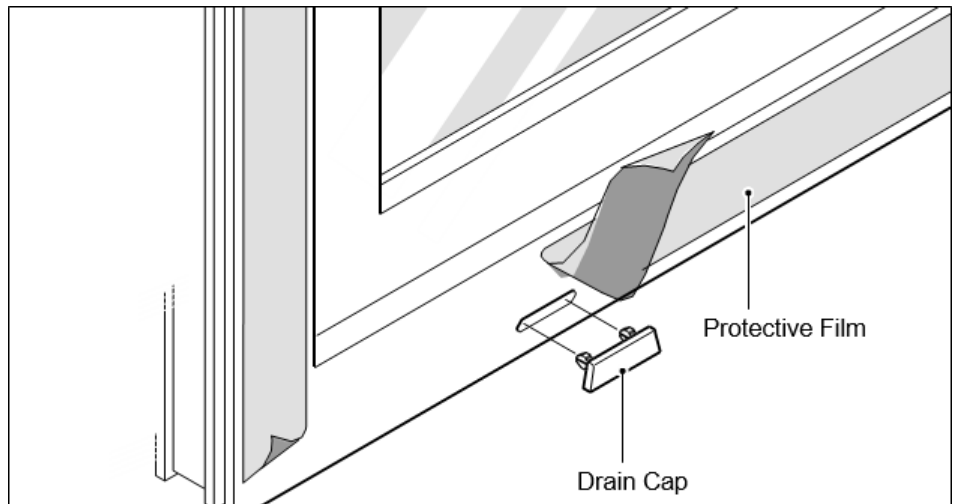

Figure 2-16. Remove the protective film and install the drain caps – exterior view
- 4.9 Remove protective film from all profiles immediately after installation. See fig. 2-16.